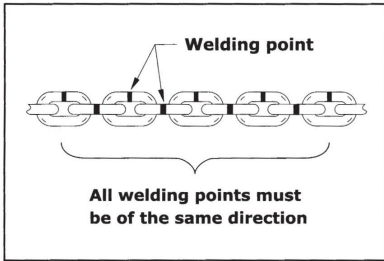

Fig.4.3
- Check the direction of chain .All welding points should be of the same direction .(Fig 4.3). The operation can not be utterly proper unless all the welding points of chain are in the same line .